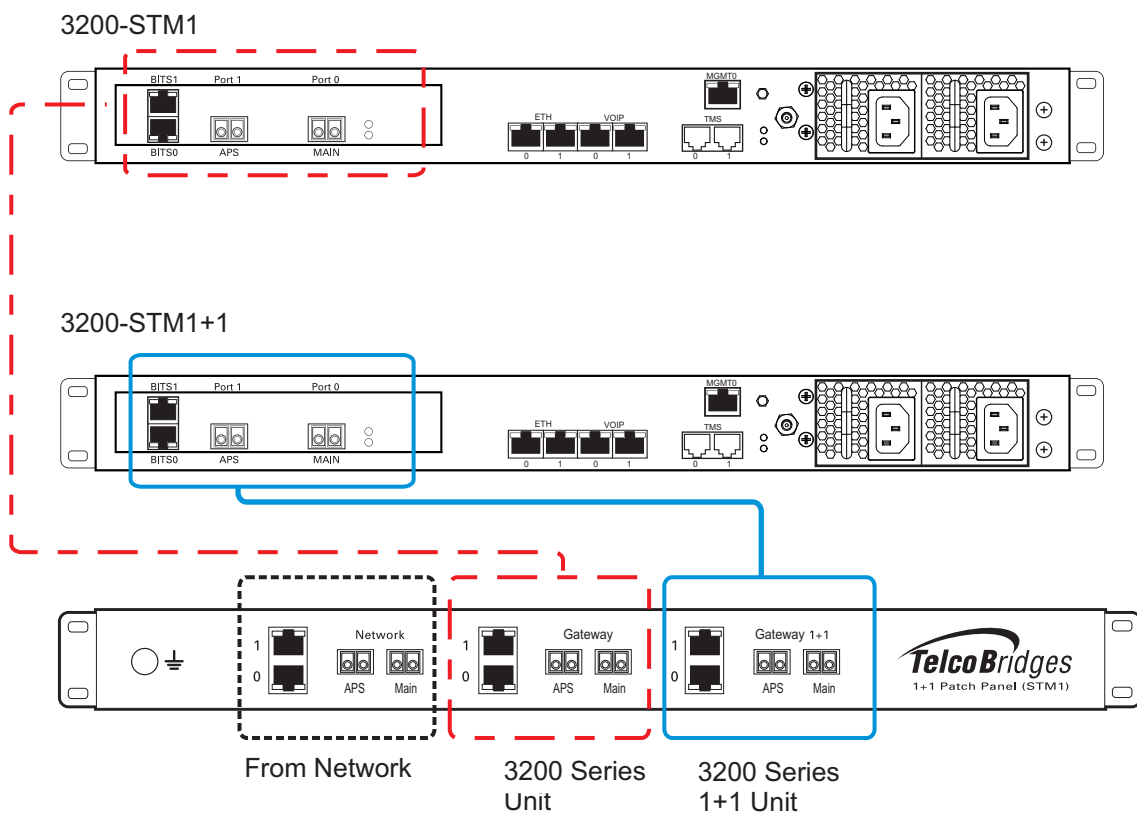

Figure 2.15 3200-STM1 and 3200-STM1 +1 connecting to the STM1 1+1 patch panel
A 3200-STM1 and 3200-STM+1, each with one main and one backup OC3 or STM1 port enables the connection to OC3/STM1 lines. See figure 2.15 on page 35. Refer to table 2.4 on page 34 for a listing of optical interfaces. The default SFP module for OC3/STM1 connection is SMF, intermediate reach, (SFP-OC3-IR1) 1310 nm with LC type connectors.
1. Connect each OC3/STM1 line of the network section of the 1+1 patch panel to the remote equipment. See figure 2.15 on page 35.